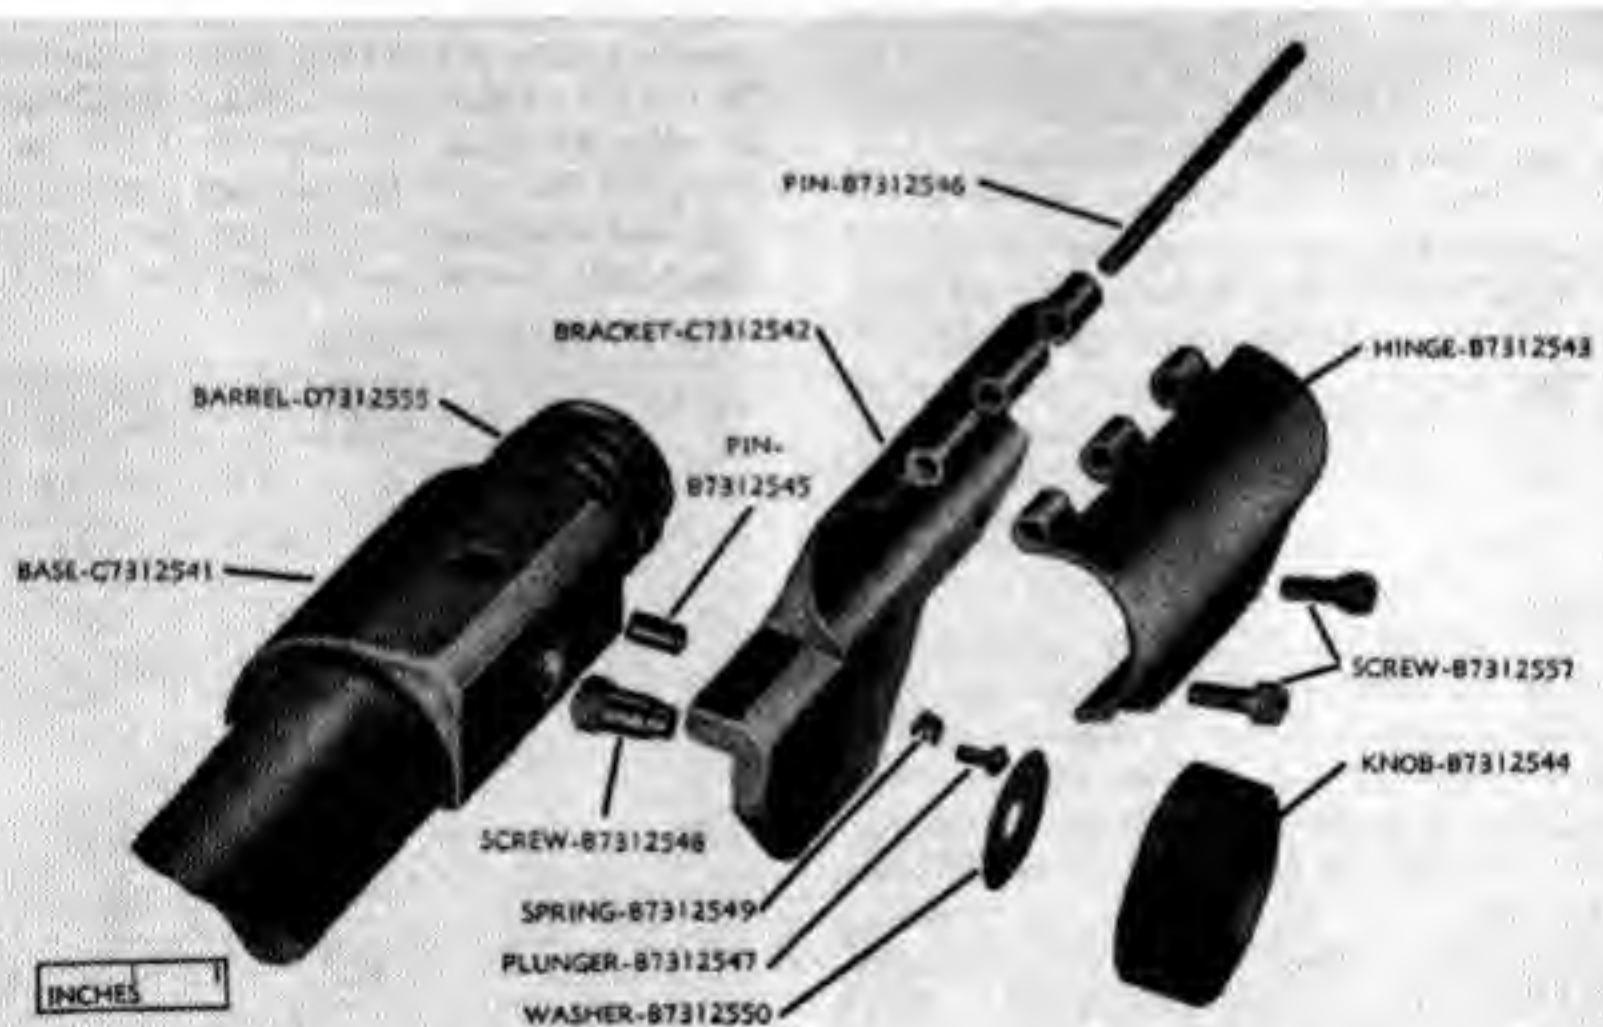

Fig. 131. Barrel with fixed base and scope mount parts, M1D.
55. Telescope mount, M1D only: (Fig. 131) inspect base for looseness on barrel, and for burs. Inspect dowel pin for burs, wear, and for looseness in base. Inspect knob for looseness on screw and